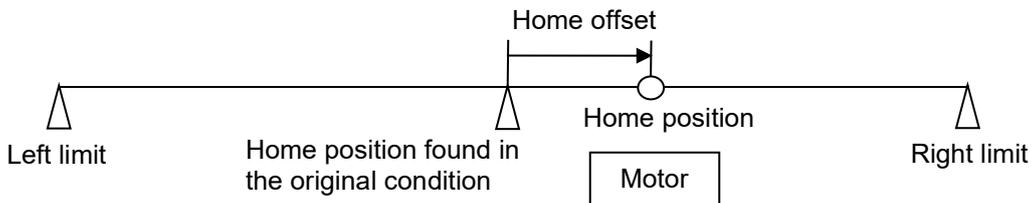

Figure 5.6.2
This method is only applicable to homing mode (1) and (2) described above. When “Home offset” is set as a non-zero value, the home position found in the original condition is offset by a distance. This new position is taken as the origin of coordinates, and the motor will move to this new home position, as Figure 5.6.2 shows. If the left and the right conditions are not “None”, the drive will take the position, the home position found in the original condition offset by a distance, as the new home position. If “Home offset” is positive, the origin of coordinates is on the right side of the home position found in the original condition. If “Home offset” is negative, the origin of coordinates is on the left side of the home position found in the original condition.